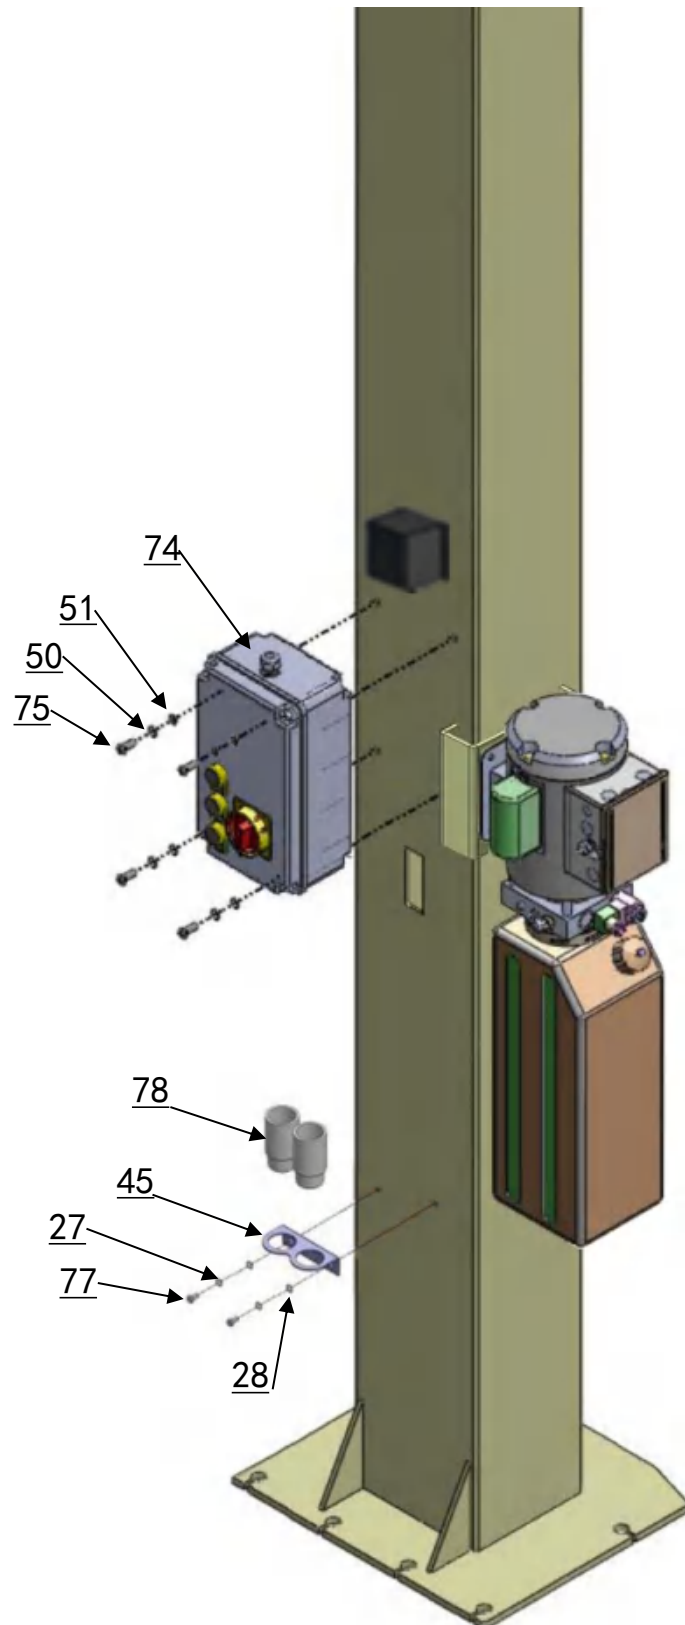

Fig.31
O. Install control box and support frame of stackable adapter. (See Fig.31)